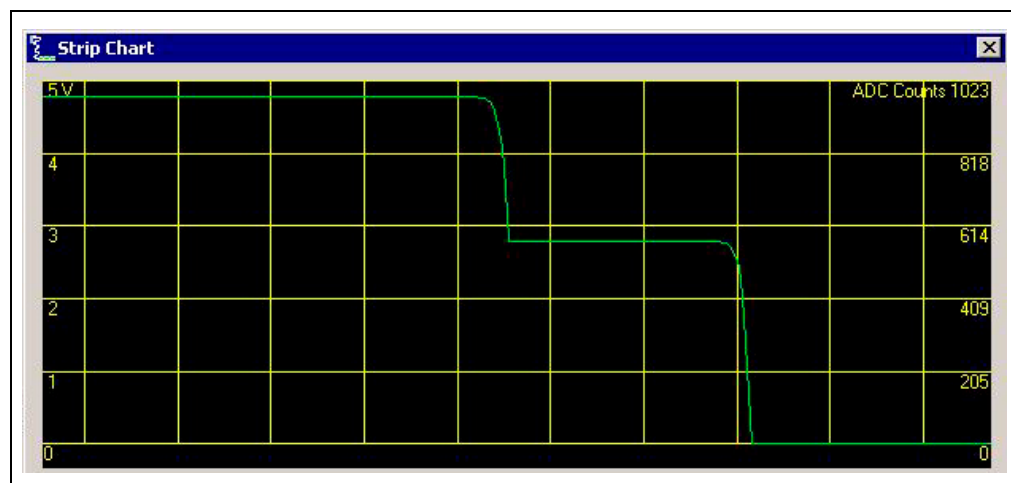

FIGURE 2-2: Strip Chart.
5. Change the switch positions (SW_1 and SW_2) and verify that the strip chart changes. Figure 2-2 shows the result when R_A was set to 10 k Ω and R_{var} to 0 Ω , then 12.8 k Ω , and then 217.6 k Ω (see **Section 3.2 "Configuring Board"**).